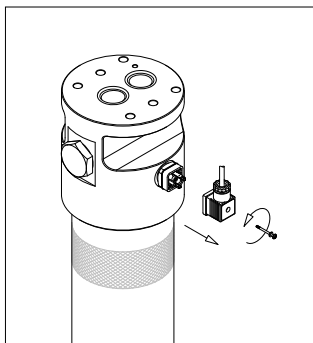

fig. 13
- (Fig. 13) Remove the connector of the differential indicator by unfastening the central screw (only for electrical indicators)
- For the mounting/dismounting of the indicator, please refer to the paragraph "Clogging indicator replacement" above (Fig. 13÷16)